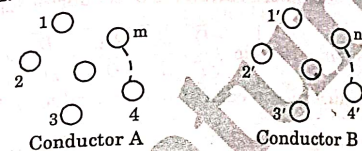

Fig. 4.15.1.
1. Consider a single-phase system consisting of two composite conductors A and B, each having m and n number of strands, respectively as shown in Fig. 4.15.1.